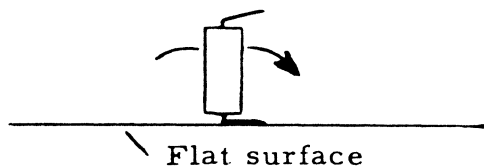

Figure 7 - IC Pin Alignment
- If the IC leads are wider than the IC socket holes making insertion difficult, close the rows of pins slightly until they are aligned with the IC socket holes. Close the row of pins uniformly by placing the IC on it's side on a flat surface (Figure 7).